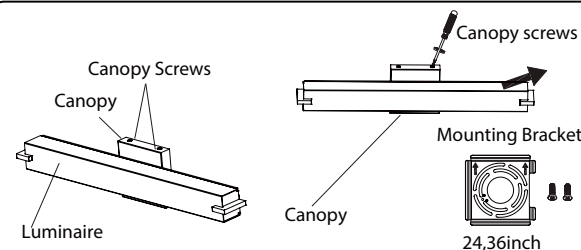

Fig.1
INSTALLATION & ASSEMBLY (Fig.1 & Fig.2)
4. Twist counter clockwise to loosen canopy screws (Fig. 1).
5. Remove mounting bracket from luminaire. Do not remove any other parts (Fig. 1).